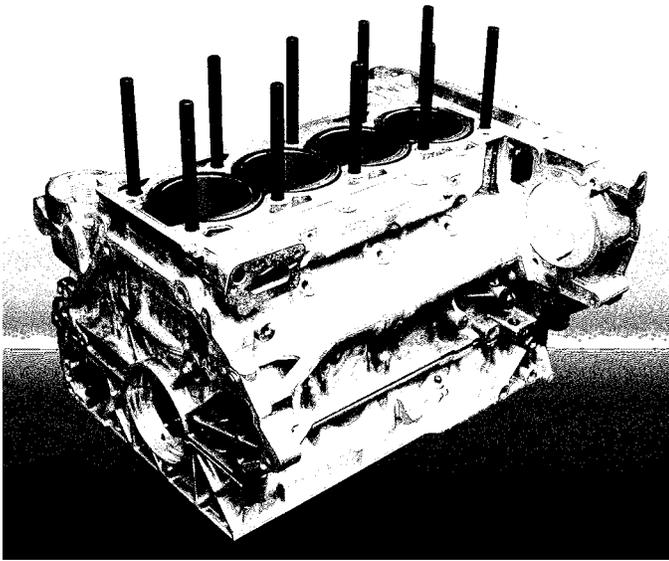

Figure 7
- H-11 1/2" 13 head studs are installed into the block (Fig. 7).